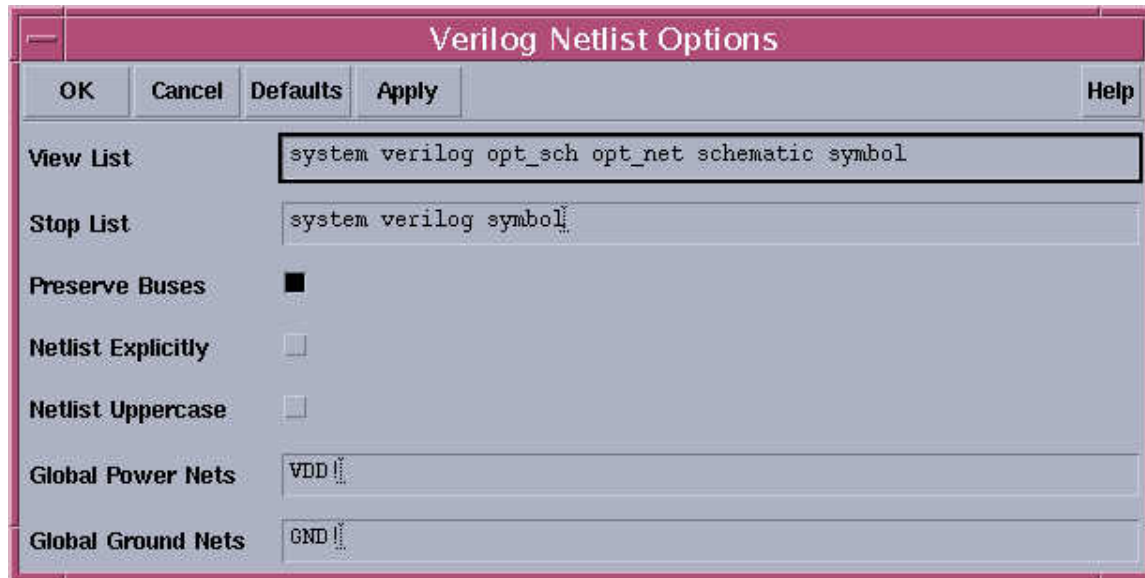

Figure 6. Verilog Netlist Options.
3. Go to **Session->Setup->Verilog Netlister...** and a window will appear as shown in Figure 6.